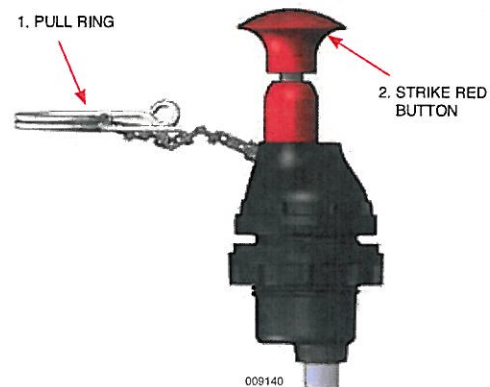

FIGURE 7-1
- Open guard door on CHECKFIRE 110 Control Module (break visual seal), and push the "PUSH To Activate / Alarm When Lit" button, see Figure 7-1.
- Pull ring pin and strike red strike button on an Electric Manual Actuator (EMA), see Figure 7-1.